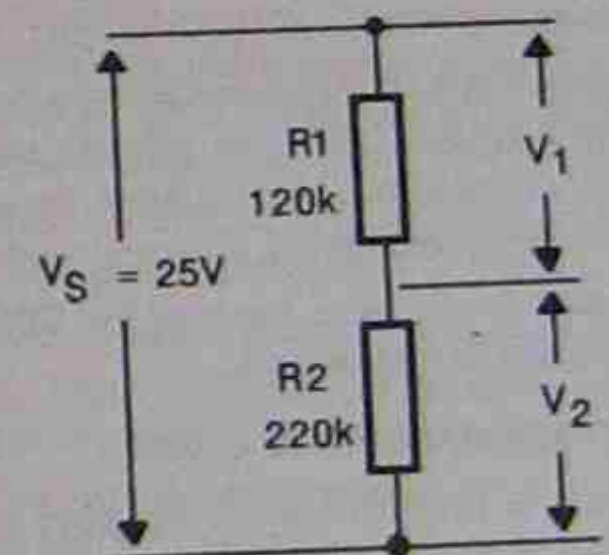

Fig.2
2. For the circuit of Fig.2, calculate the values of V1 and V2.
3. For the circuit of Fig.2, calculate the reading that will be shown by a voltmeter with a sensitivity of 10k ohms/volt set to its 10V scale.